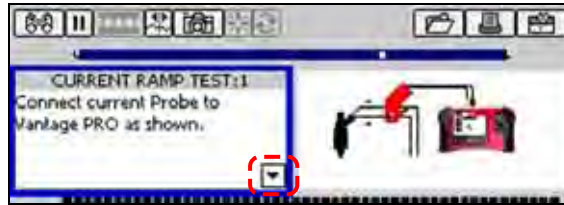

Figure 4-9 Down **d** arrow indicating more information
- Press the up **b** or down **d** arrow in the selected window (Figure 4-9) to display more information.